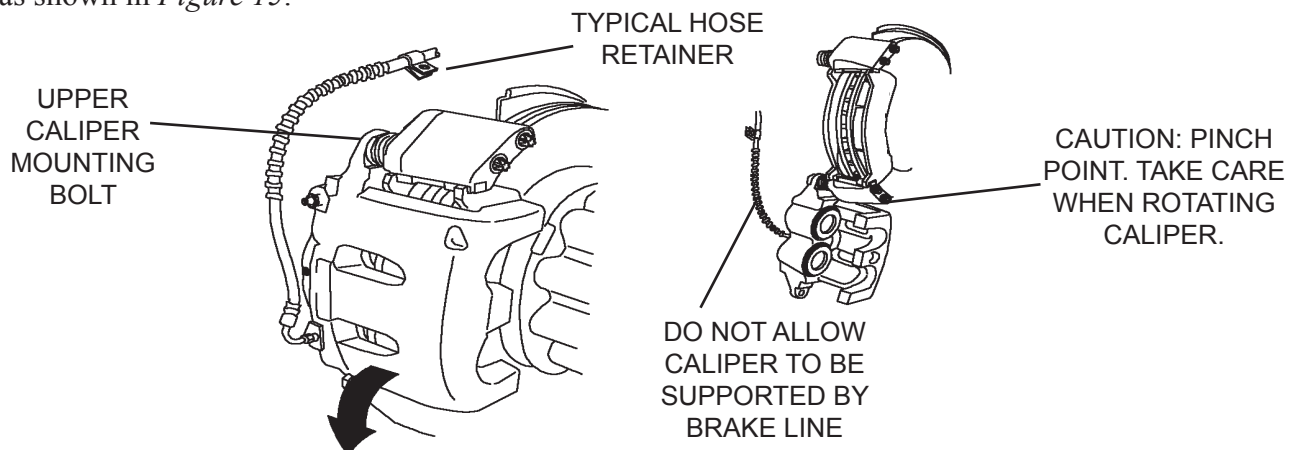

Figure 15. Rotating Caliper for Pad Replacement
3. Remove the upper (top) caliper mounting bolt securing the caliper to the upper anchor plate pin, as shown in *Figure 15*.